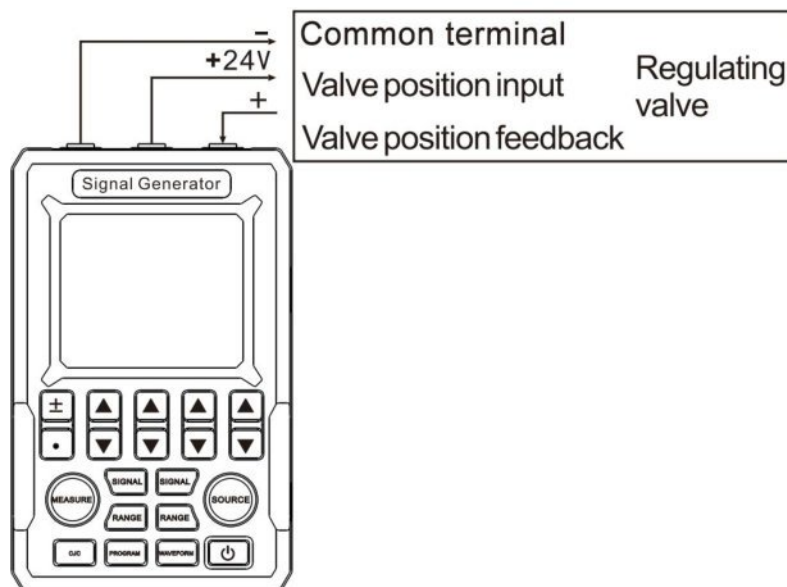

Figure 7 Regulating valve
- Connect the signal cables based on Figure 7